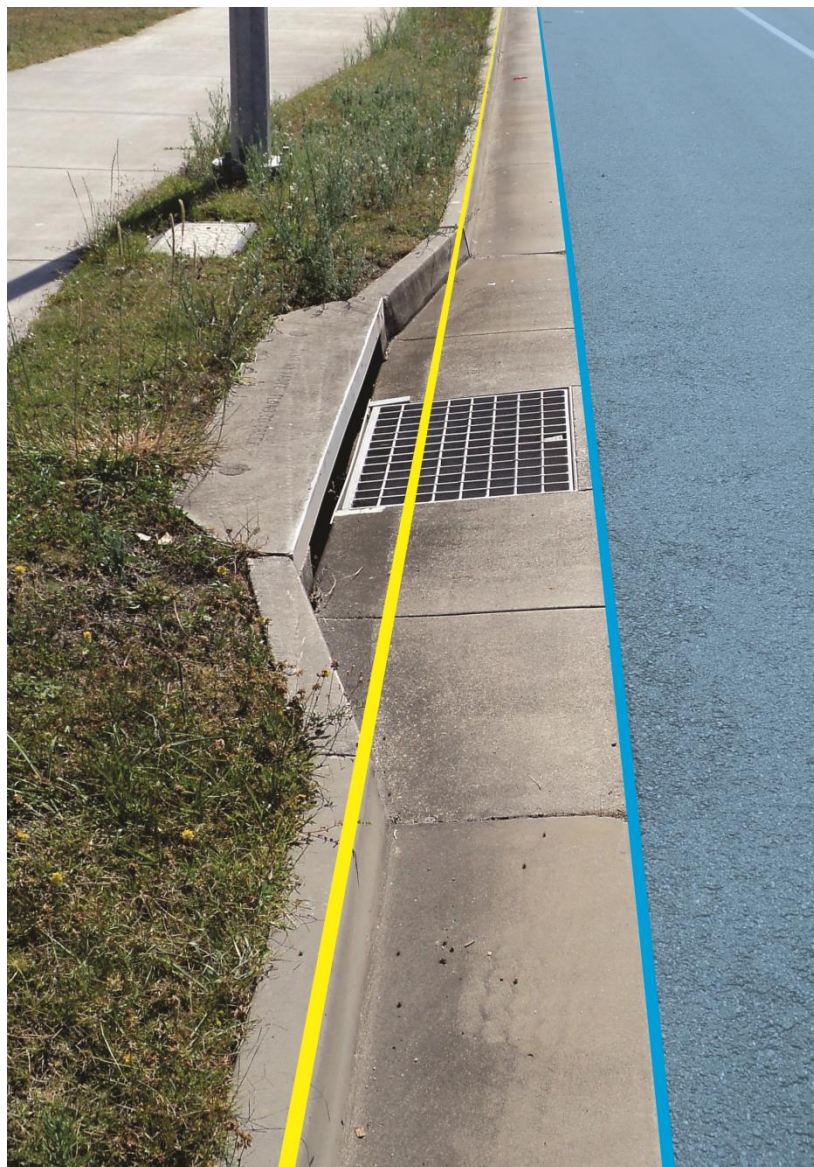
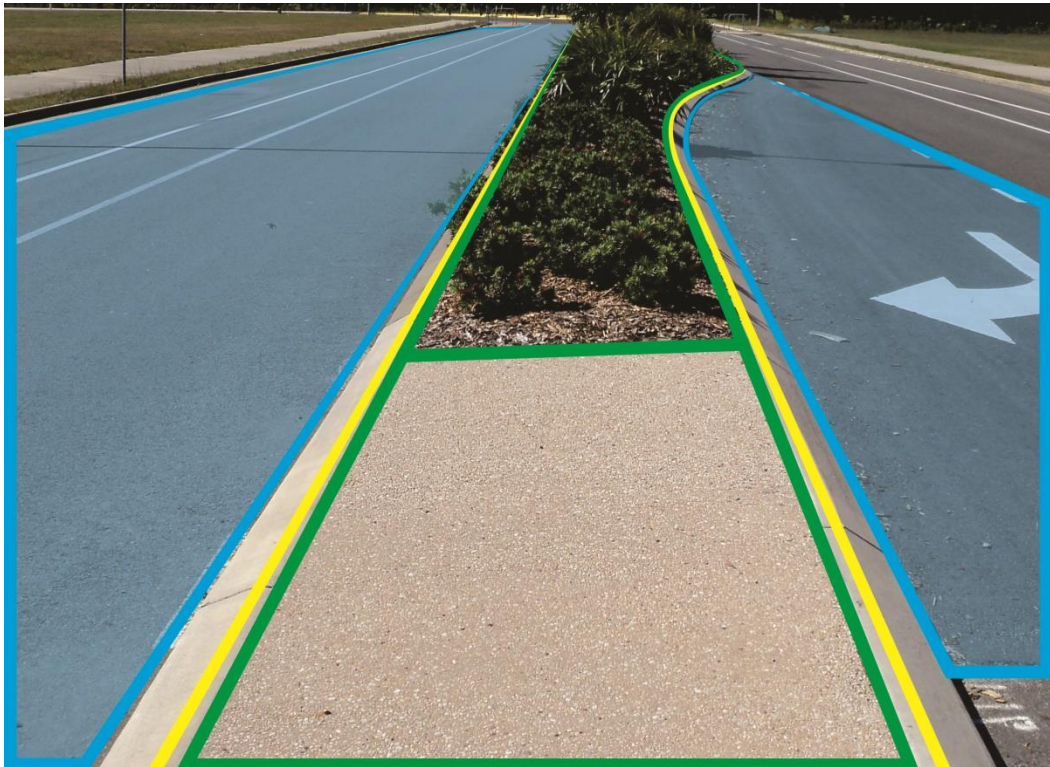

Figure 15
Figure 16
**Asset Capture:** Multi-patch region/polygon feature representing the area of Pavement. Asset capture is based on physicality therefore separate regions/polygons are required if any part of the pavement profile changes i.e. Surface, Base, Sub-Base, Lower Sub-Base and/or Subgrade. Please refer to the solid blue transparent hatch in **Figure 15 and Figure 16 below** for a typical representation of Pavement capture.
Asset Capture: Complex linear feature (read: polylines including curves but not bézier curves) representing the top of kerb. In case of inverts, edge of concrete furthest from road centreline. Refer to the yellow solid line in **Figure 15 and Figure 16 above**.
Asset Capture: Multi-patch region/polygon feature representing the area of Island/LATM bounded by the back of Kerb features. Asset capture is based on physicality therefore separate regions/polygons are required if the Type of Island or Infill changes. Please refer to the solid green lines in **Figure 16 above** for Road Island asset capture.